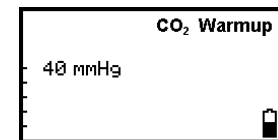

Figure 10-3: Measuring
6. After initialization, the monitor automatically goes to Measuring Mode. The message **CO₂ Warmup** appears on the Silent Advisory Message area, refer to Figure 10-3.